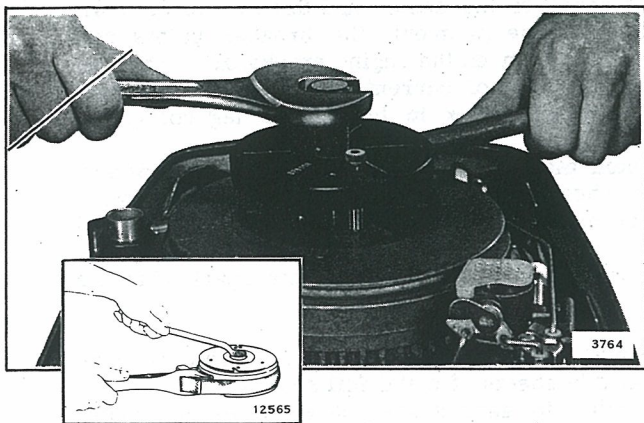

Figure 4-3. Pulling Flywheel
a. Remove flywheel nut. Using flywheel puller (Special Tool #378103), pull flywheel from crankshaft. See Figure 4-3.